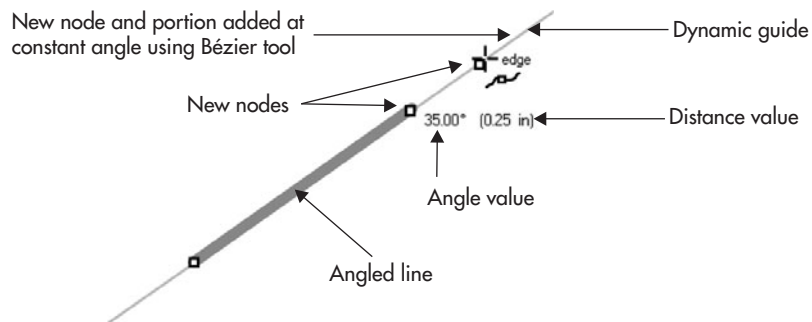

FIGURE 7-10 The Extend Along Segment option is useful for both Bézier and freehand drawing.
- **Extend Along Segment** Choose this to display a guide at the same angle as straight line segments. This option is useful for Bézier and freehand drawing because this makes it easy for you to add new portions to straight lines at a constant angle (as shown in Figure 7-10).